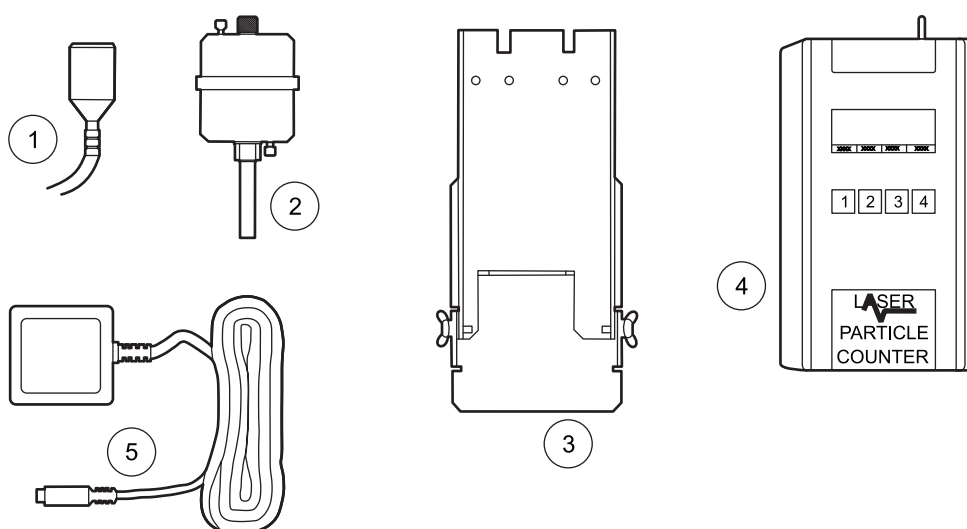

Figure 3 List of packaged items
Remove the components from the shipping container and inspect for damage. Verify that all the items listed in Figure 3 are included. If any items are missing or damaged, contact the manufacturer or sales representative.
The purge filter (refer to Figure 3 on page 11, item 2) is used for the maintenance of the MET ONE 227 particle counter. The filter prevents the contamination of the sensor and purges the sensor of accumulated internal particles.
The charging stand (refer to Figure 3 on page 11, item 3) is used to hold the MET ONE 227 particle counter during recharge or when sampling from a stationary position.
The AC adapter (refer to Figure 3 on page 11, item 5) is used to charge the internal battery and use the MET ONE 227 particle counter with a standard 115 VAC outlet.